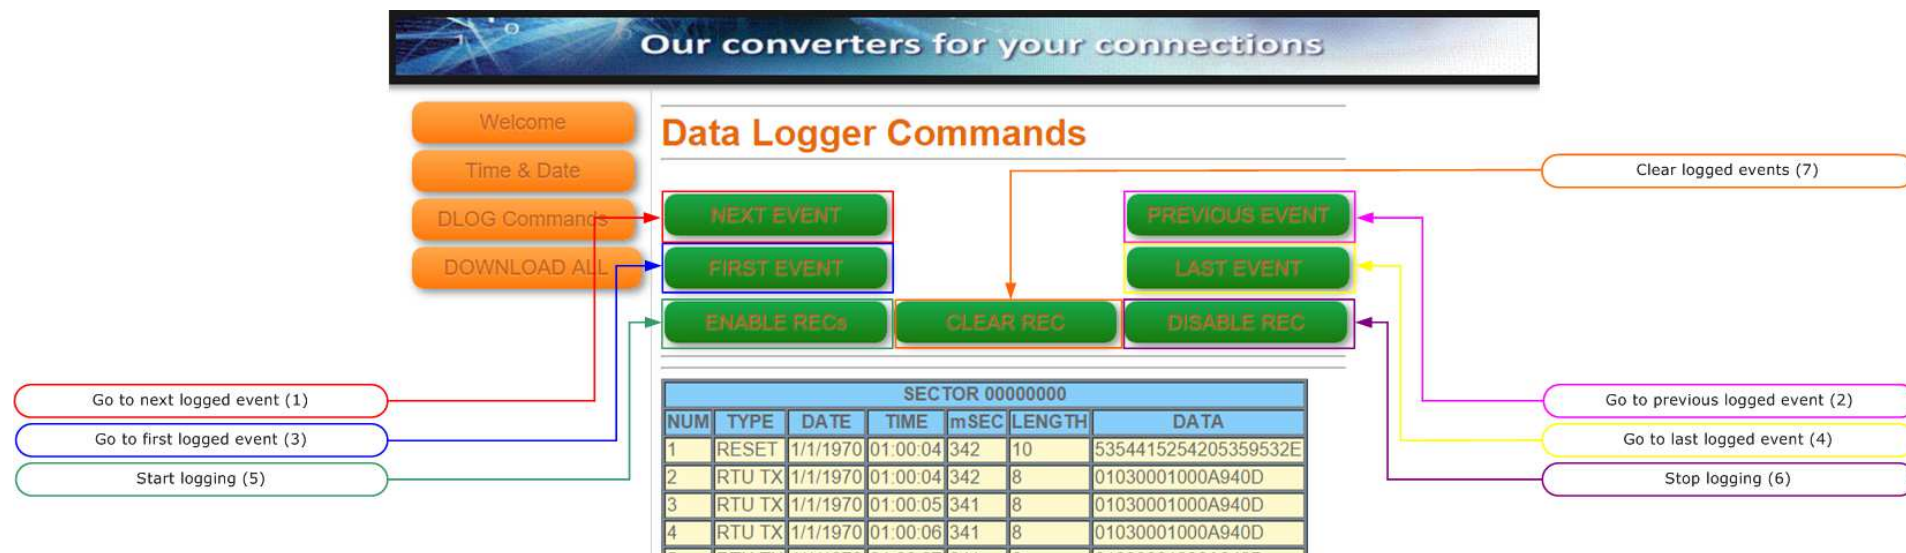

Figure 16: "Data Logger Commands" window
When the "DLOG Commands" button is pressed, the "Data Logger Commands" window appears (Fig. 16). It has the following structure:
- "NEXT EVENT" button (Fig. 16, Point 1): it is possible to go to the next logged event;
- "PREVIOUS EVENT" button (Fig. 16, Point 2): it is possible to go to the previous logged event;
- "FIRST EVENT" (Fig. 16, Point 3): it is possible to go to the first logged event;
- "LAST EVENT" (Fig. 16, Point 4): it is possible to go to the last logged event;
- "ENABLE REC" (Fig. 16, Point 5): it is possible to start the logging;
- "DISABLE REC" (Fig. 16, Point 6): it is possible to stop the logging;
- "CLEAR REC" (Fig. 16, Point 7): it is possible to clear the logged events.